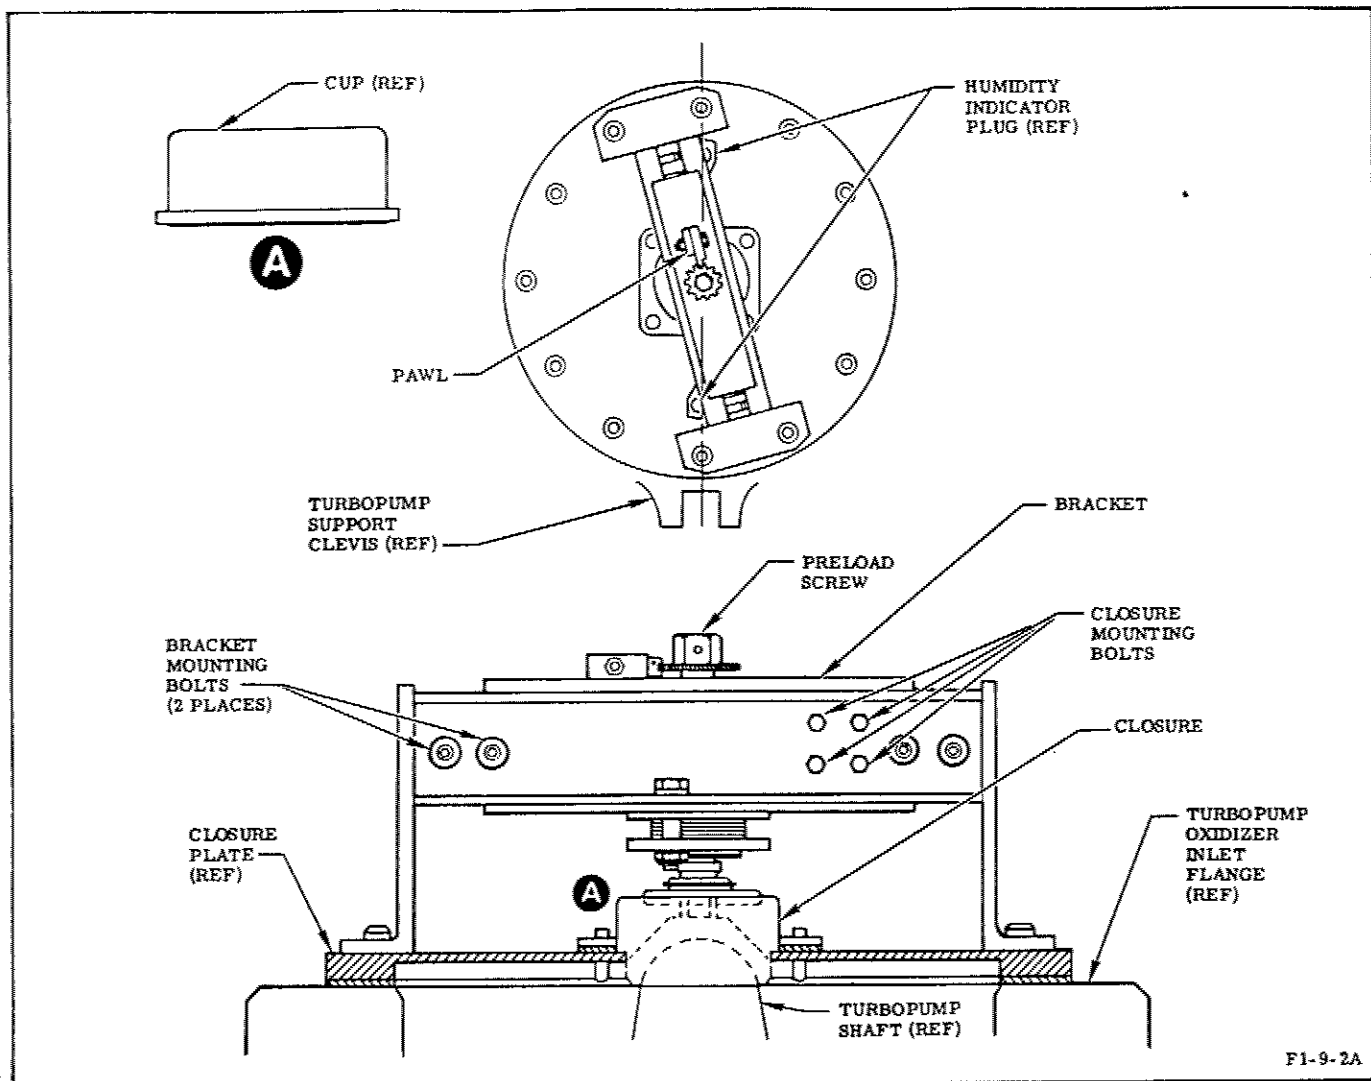

Figure 1-4. Installing Turbopump Shaft Preload Fixture
#### 1-11. INSTALLING TURBOPUMP SHAFT PRELOAD FIXTURE. (See figure 1-4.)
e. See figure 1-4 for positioning of fixture on closure plate and remove 4 applicable bolts and washers. Store bolts and washers in bracket of fixture.